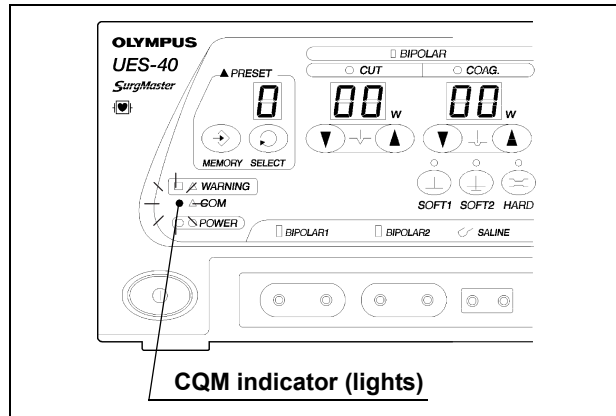

Figure 3.5
3. When a split-type patient plate is connected, verify that the CQM indicator is illuminated after the power is turned ON (see Figure 3.5).